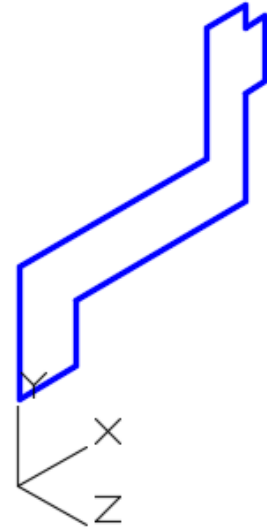

Figure Step 5
Step 5 Using the multiview drawing as a reference, draw the right side cross section of the solid part of the object. (Figure Step 5)